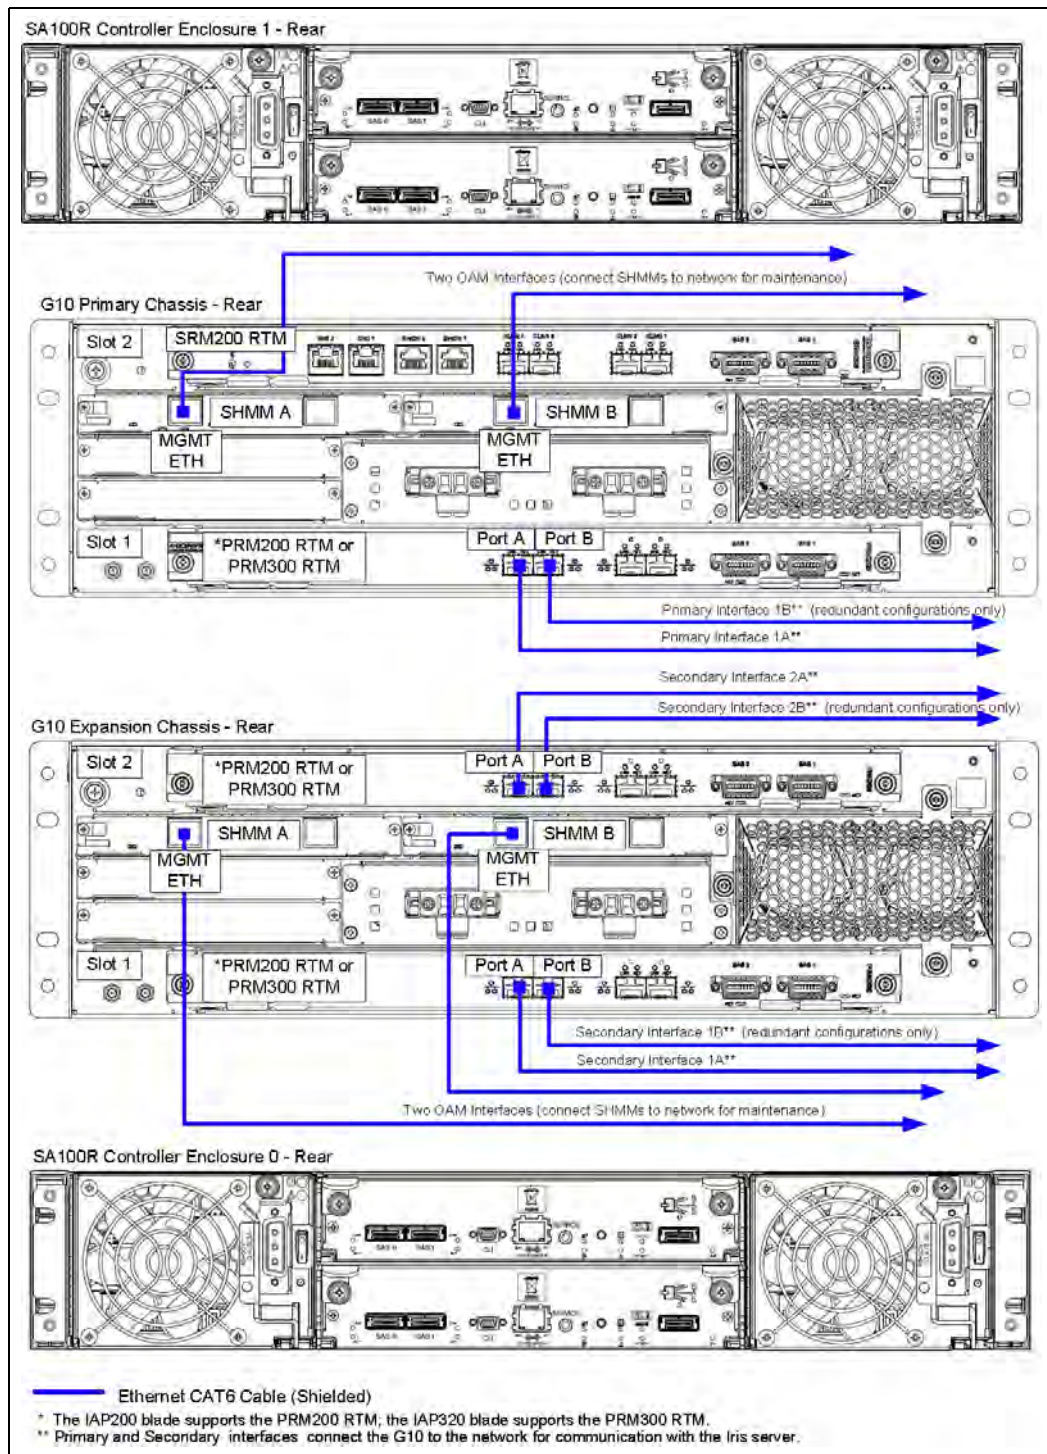

Figure 3.8 - Ethernet Connections from G10 to LAN
2. Use Figure 3.8 to connect Ethernet cables from the G10 chassis to your LAN.